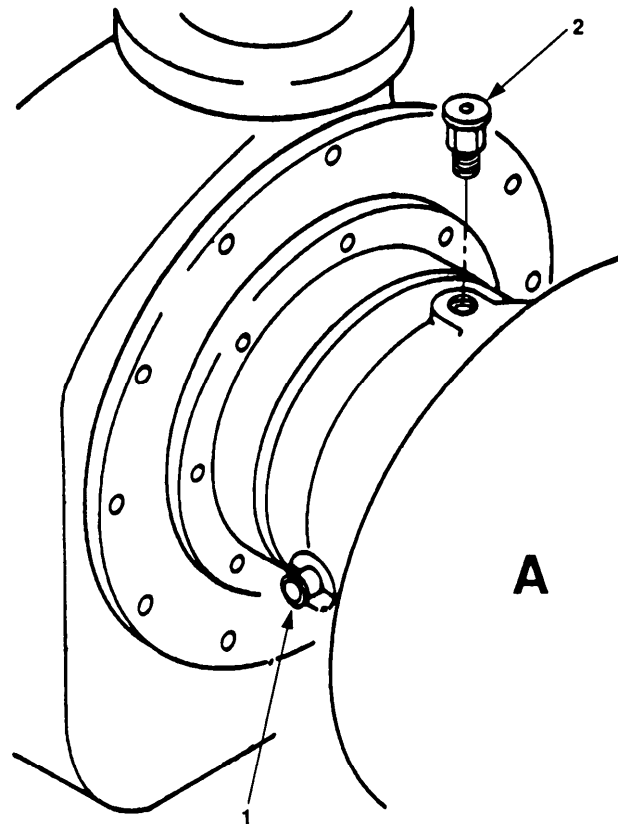

Figure 3-4. Servicing Pump Assembly.
- a. Look into sight gauge (figure 3-4, 1) to verify oil level.
- b. If oil level is low, remove vent cap (2) and fill to proper level in accordance with LO 10-4320-226-12.
- c. Install vent cap (2).